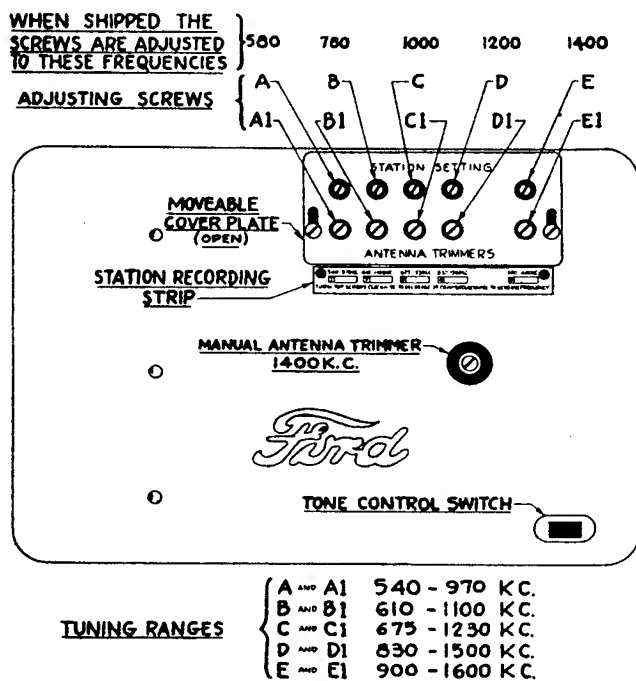

FIG. 4
the dashpot. This clearance should be very small as otherwise the pickup will tend to bounce as it is lowered. There must be sufficient clearance however to prevent the pickup shelf from rubbing on the tip of the dash pot, or the pickup will not swing out far enough to allow the adjustable stop at K Fig. 2 to come to rest against the dashpot. Check this clearance in both 10" and 12" record positions. If adjustment is required, the height of the dashpot may be regulated by loosening the nuts on the bottom of the lift lever stud at X Fig. 4 and changing their position on the stud. To raise the dashpot turn the nuts clockwise, to lower the dashpot turn the nuts counter-clockwise. Be sure to lock the nuts tightly together after the adjustment is made.
AUTOMATIC TUNING ADJUSTMENTS: 1. Turn the receiver on and allow it to operate until thoroughly heated. Loosen the screws holding the cover plate over the automatic adjustments, and slide it upward exposing the adjusting screws and recording strip. This plate is on the front of the receiver. (See Fig. 4.) 2. Push the automatic station selector button until the word "Dial" is at the automatic dial window. Tune in manually the station whose call letters are in the No. 1 position on the dial (the lowest frequency station—see Fig. 3) and note the program so that it can be identified. Push the automatic station selector button once, and this station's call letters will appear at the automatic window.
3. With a small screw driver, turn the station setting screw A (see Fig. 4) in the upper row to the right or left until that station is tuned in accurately.